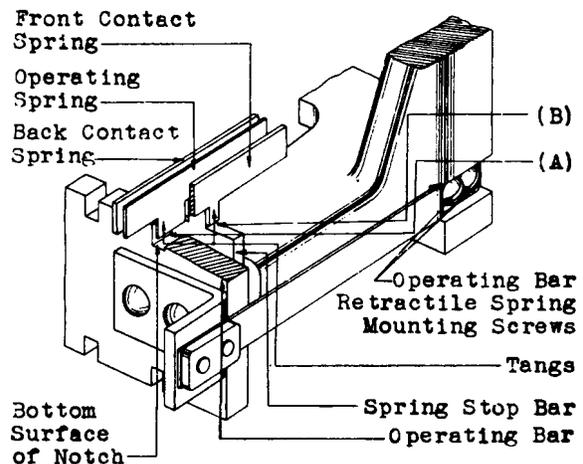

Fig. 3
(a) Fig. 3 (A) - The operating spring tang shall engage with the notch in the operating bar min. 1/32" and shall clear the bottom of the notch. Gauge by eye.
(b) Fig. 3 (B) - The contact spring tang shall engage with the notch in the spring stop bar min. 1/32" and shall clear the bottom of the notch. Gauge by eye.